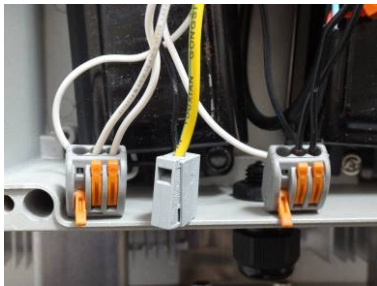

Figure 4: Power wire Connectors
7. Live wire or the black wire goes to the 3rd position of the 3 pin connector of the black wire connector. You must open the lever to insert the wire and close it to secure the wire. See Figure 4. Pull and test to make sure the wire is indeed securely fastened and holding in the hole. Loose wires will cause poor performance or burnout.